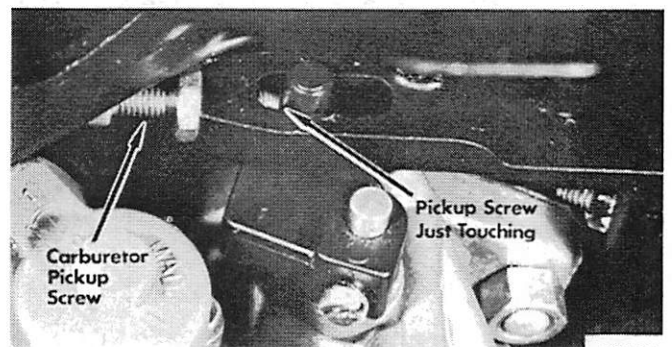
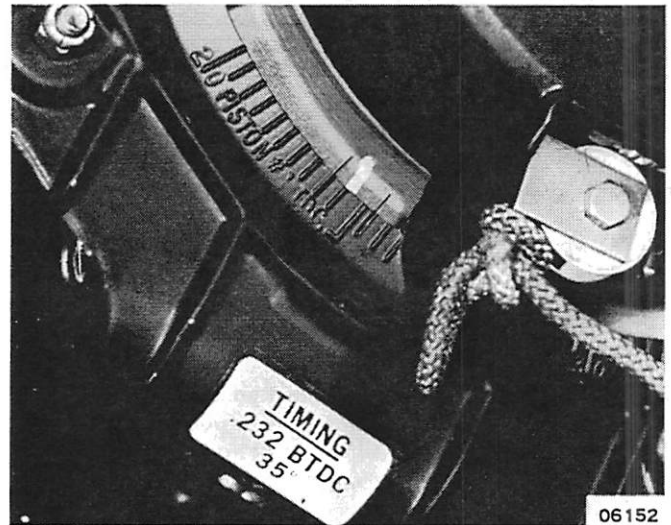

Figure 4. Carburetor Pickup Screw Adjustment
Figure 7. Timing Mark Alignment
11. Close throttle with twist grip until meter indicates point just opens. Adjust carburetor pickup screw until screw just touches. (Figure 4)
6. While holding timing lite in line with degree markings, close throttle with twist grip until timing mark on flywheel aligns between 1° BTDC and 4° ATDC. (Figure 7) Adjust carburetor pickup screw until screw just touches. (Figure 4)